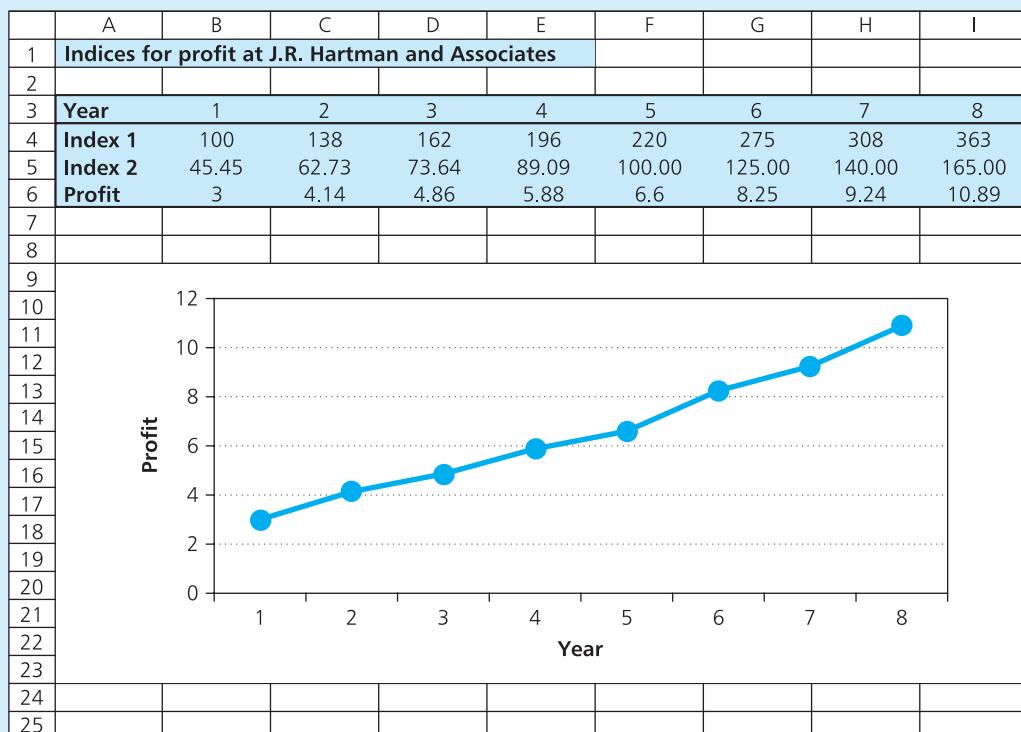

Figure 7.3 Indices for profit at J.R. Hartman and Associates
- You find Index 1 by multiplying Index 2 by a constant amount. You can find this constant from year 5, when Index 1 is 220 and Index 2 is 100 – so to convert from Index 1 to Index 2 you multiply by $220/100$. Then Index 1 for year 6 is $125 \times 220/100 = 275$, and so on, as shown in Figure 7.3.
- Similarly, you change from Index 2 to Index 1 by multiplying by $100/220$. Index 2 for year 4 is $196 \times 100/220 = 89.09$, and so on, as shown in Figure 7.3.
Figure 7.3 shows the profits for other years.